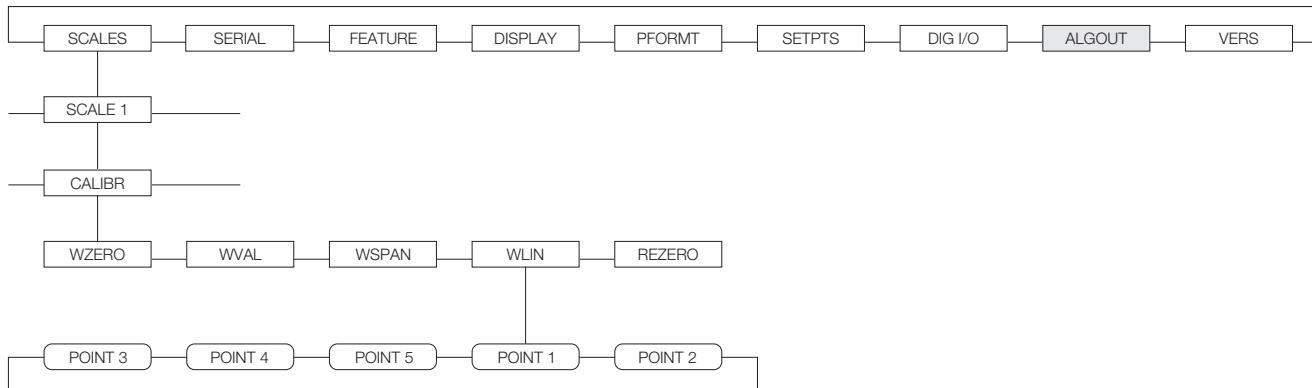
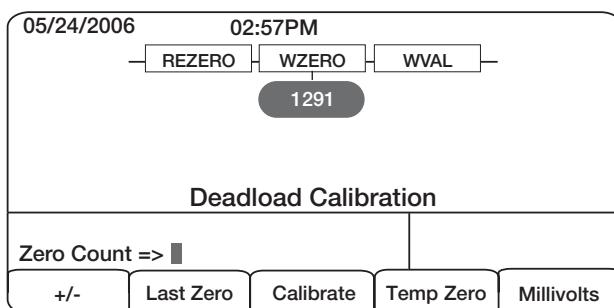

Figure 4-1. Calibration (CALIBR) Submenu
Figure 4-2. WZERO Calibration Display
The CALIBR submenu (under the SCALES menu, see Figure 4-2) is used to calibrate the 820i.
2. With the **SCALES** menu highlighted, press the **down** key, then select the scale to be calibrated. Press **down** again (*GRADS* parameter highlighted), then press **left** to highlight the **CALIBR** submenu (see Figure 4-1). Press **down** to go to zero calibration (*WZERO*). See Figure 4-2 on page 45.